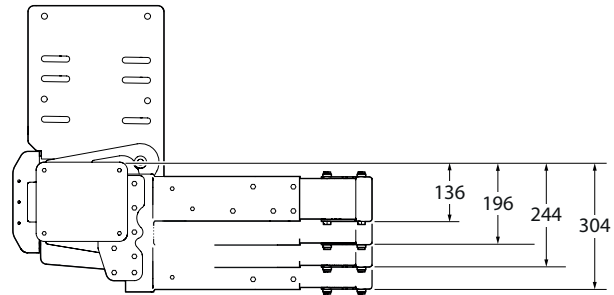

Figure 36. The inner part of the brackets can be fitted at one of four heights
1. Fit the inner part of each bracket at one of four heights. Use the corresponding bolts M12x100. Assemble without tightening the bolts, see Figure 36